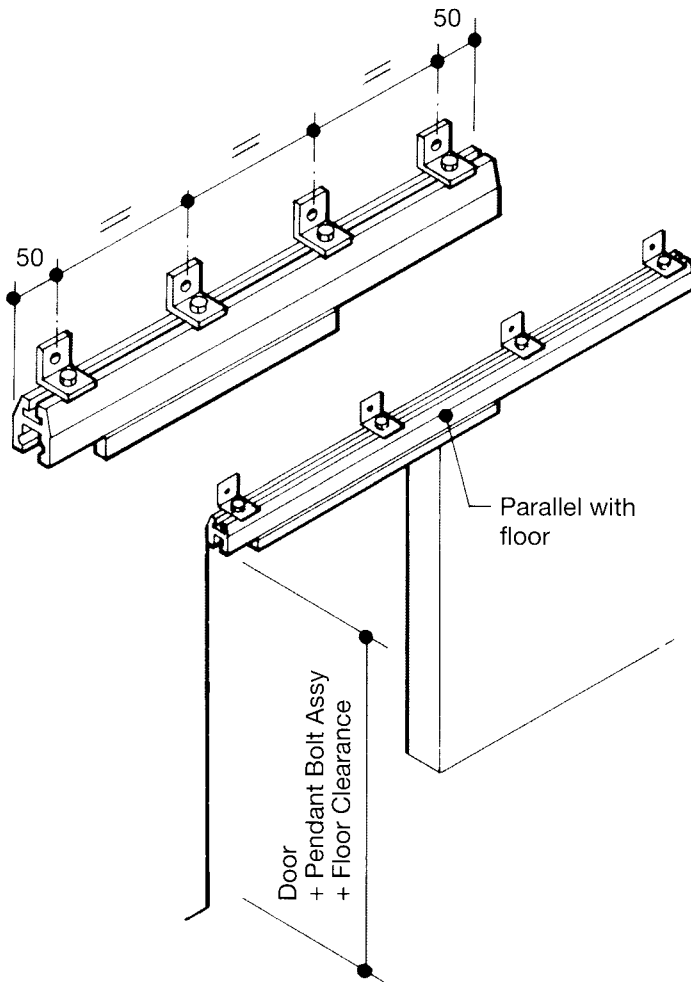

Fig. 4
2. Equi-space mounting brackets along outer section, positioning outer brackets 50mm in from each end (Fig. 4)